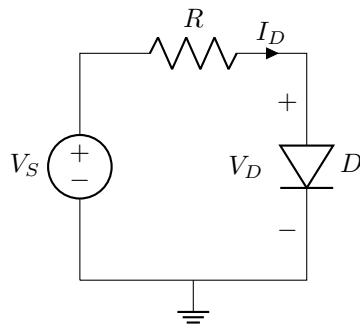

Figure 1: Forward-bias pn junction I–V characteristic measurement circuit.
Begin by constructing the circuit shown in Figure 1 on the breadboard using the small-signal silicon diode and the 1 kΩ resistor. Ensure that the diode is oriented correctly with the anode connected toward the positive supply terminal and the cathode toward ground. Set up the lab instruments to measure the diode voltage  $V_D$  and current  $I_D$ . To measure the voltage, connect the leads of the DMM (Digital Multimeter) across the diode terminals to measure the diode voltage directly. To measure the current, there are two options: connect a second DMM in series with the circuit (being careful to observe the current measurement limits of the meter) or measure the voltage across the resistor and calculate the current using Ohm's law ( $I_D = V_R/R$ ). The second method is often preferred as it avoids potential issues with the meter burden voltage.
2. For the circuit in Figure 1, assume  $V_S = 5$  V,  $R = 1$  kΩ, and the diode forward voltage is 0.7 V when conducting. Calculate (a) the voltage across the resistor, (b) the current through the diode, and (c) the power dissipated by the diode. Show all calculations.